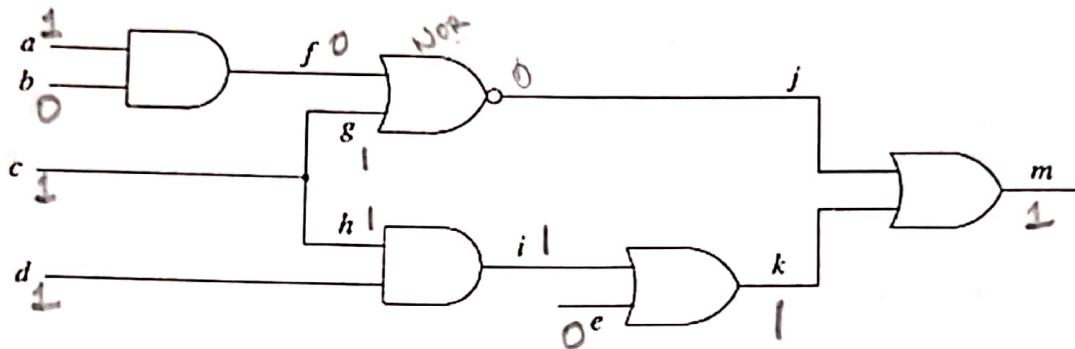

Figure 2
4. For the circuit in Figure 2: